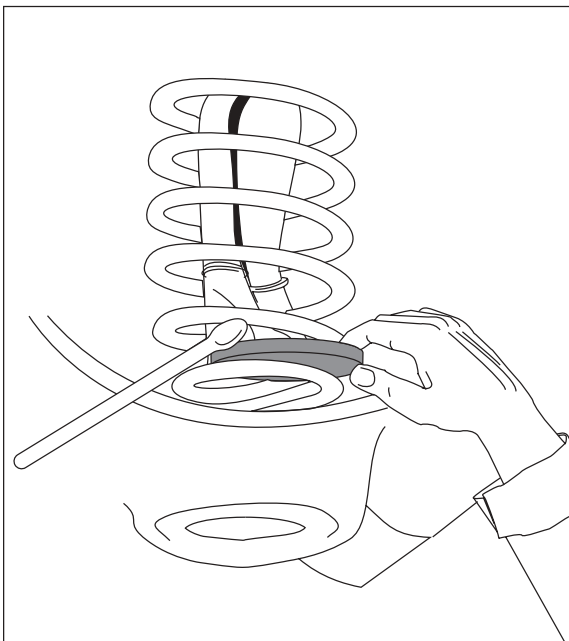

Figure 2
7. Push cylinder to the top of the coil and insert protector on top of lower spring seat (Figure 2).